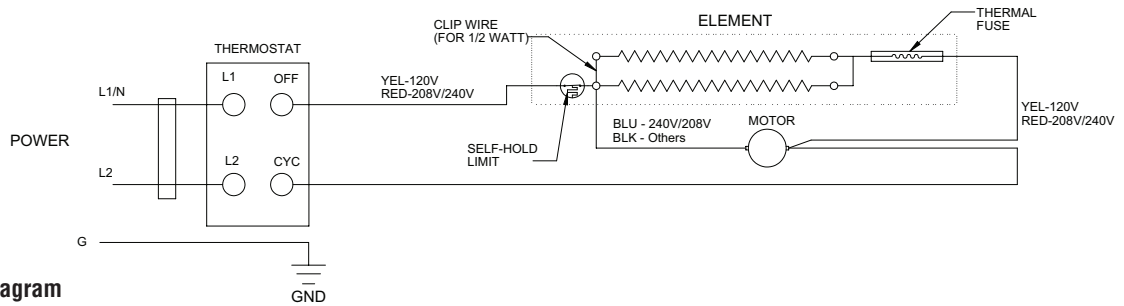

Figure 2 - Wiring Diagram
1. Following wiring diagram (Figure 2) connect supply wires to heater leadwire in back-box using appropriate wire connectors.